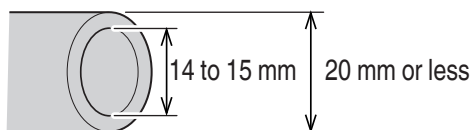

Fig. 1
5. Prepare a water feed hose (Fig. 1)